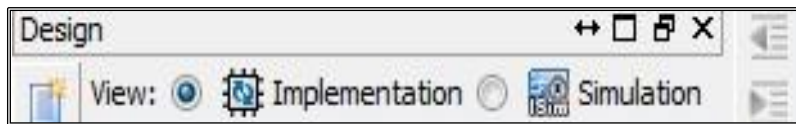

Fig 2.20: Implementation
19. For synthesis and implementation, select **Implementation Button** in the Hierarchy window on the left pan (Fig 2.20).